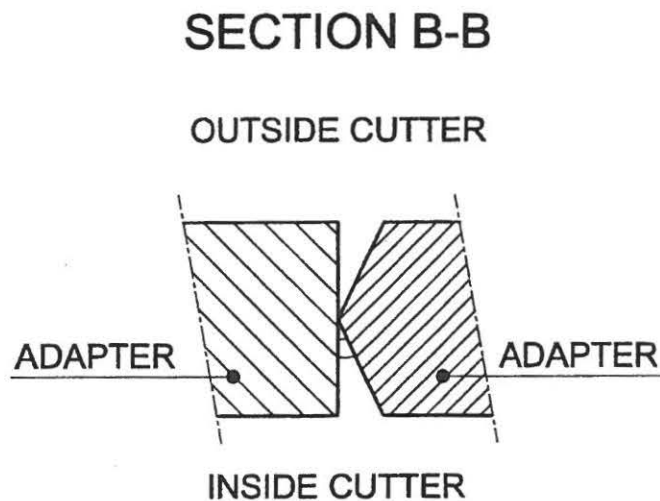

Figure 9.5
2. Weld 2 layers in the connection seams of the wings at the inner side of the cutter blade as shown in figure 9.5.